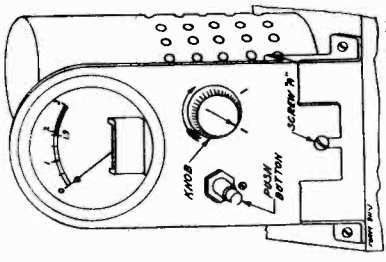
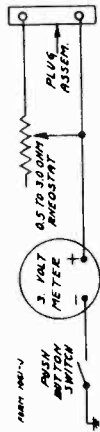
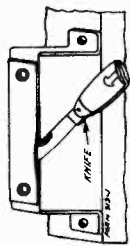

Fig. 4 - Voltage Regulator in Position
Fig. 5 - Schematic Diagram of Voltage Regulator
Fig. 6 - Prying off Fiber Cover
**3 Volt "A" Battery**—The voltage regulator required with this type of battery as illustrated in Fig. 4 is not supplied with the receiver unless specified. This device consists of a rheostat which controls the voltage, a voltmeter for measuring its value as supplied to the receiver and a small push button switch for cutting the voltmeter in and out of the circuit. It has two prongs at the bottom which plug into the socket in the platform at the rear left corner of the chassis. The circuit diagram of the regulator is shown in Fig. 5.
The receiver is shipped from the factory with a jumper between the two socket connections and a fibre strip over the socket. This strip must be removed and the jumper taken out as illustrated in Figs. 6 and 7 before the regulator can be inserted as shown in Fig. 4. The jumper is in the "A+" line.